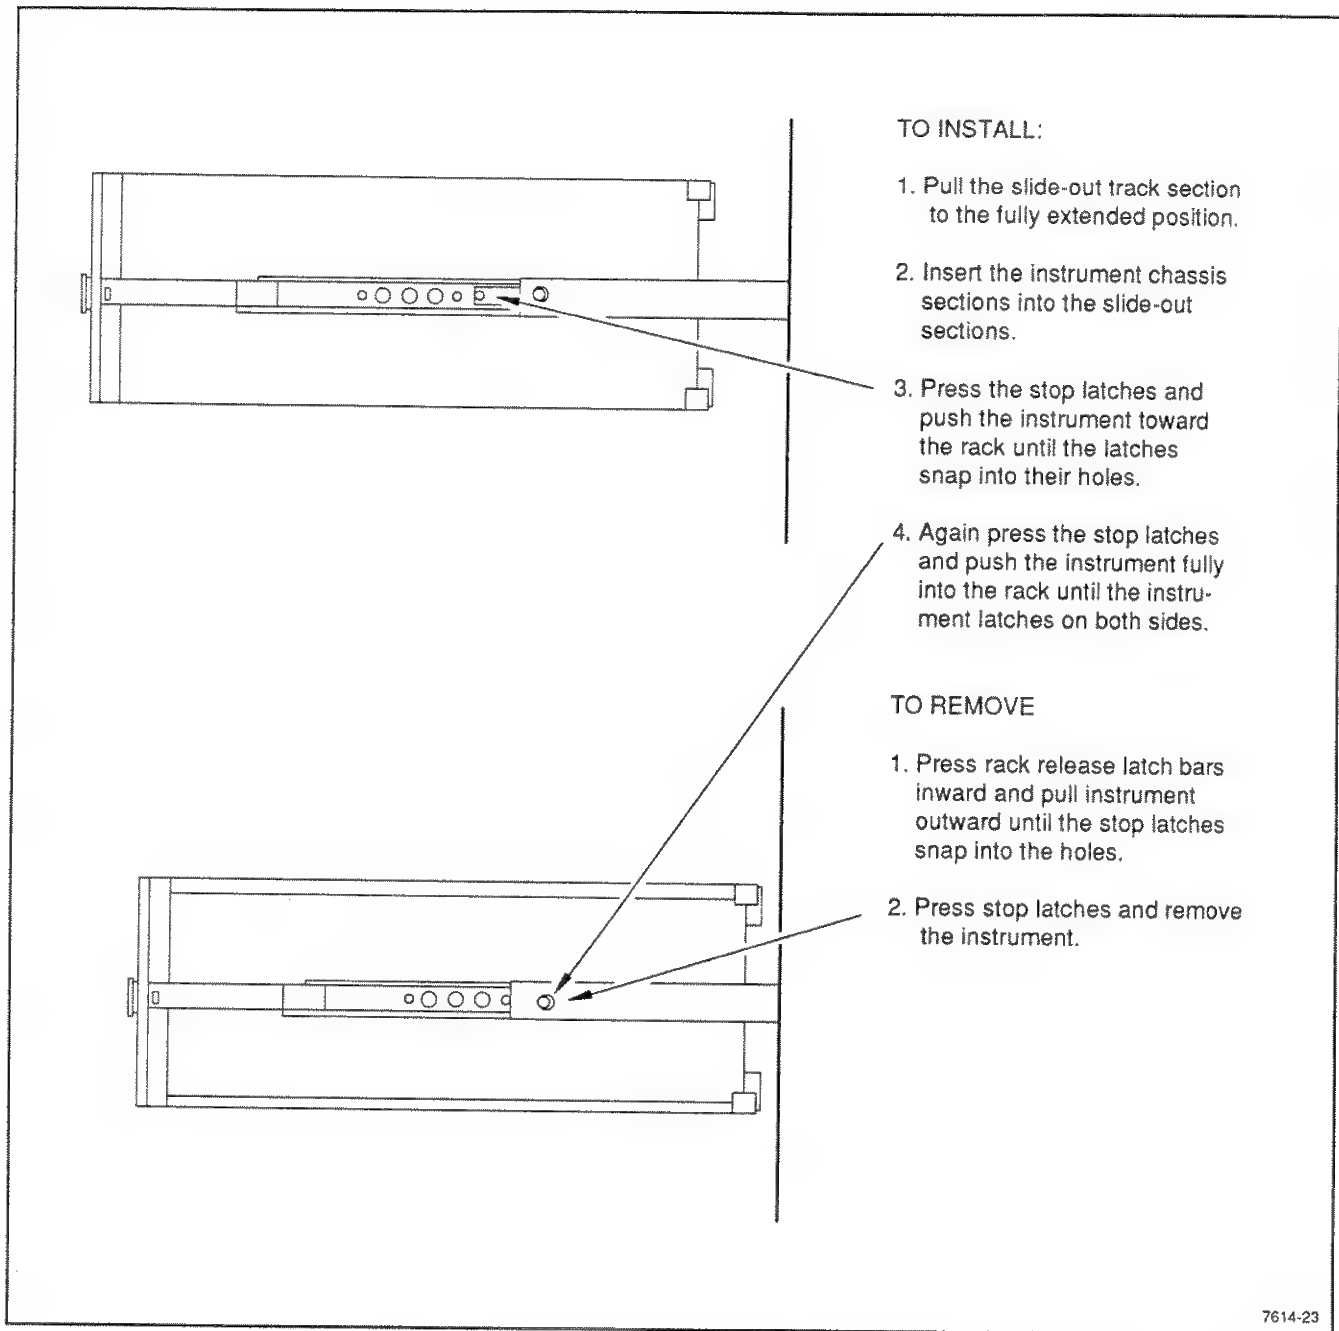

Fig. 2-9. Removing and installing TM 5006A in rack slides.
**Installing the TM 5006A, Option 10, in the Rack Slides.** Make certain all plug-ins are removed from the power module. Pull the slide-out track intermediate sections out as far as they will go. See Figure 2-9. Insert the instrument chassis sections into the intermediate section and push the instrument forward until the instrument chassis section locks into the intermediate section. Now press both buttons protruding from the stop-latch holes in the intermediate sections while pushing the instrument. The instrument can now be pushed into the rack, cabinet, or console. The latches holding the intermediate sections to the stationary sections are automatically operated by the instrument as it is pushed into the rack or cabinet. The quick release latches automatically engage the rack-latch holes in the stationary sections of the rails as the instrument is pushed fully into the rack.